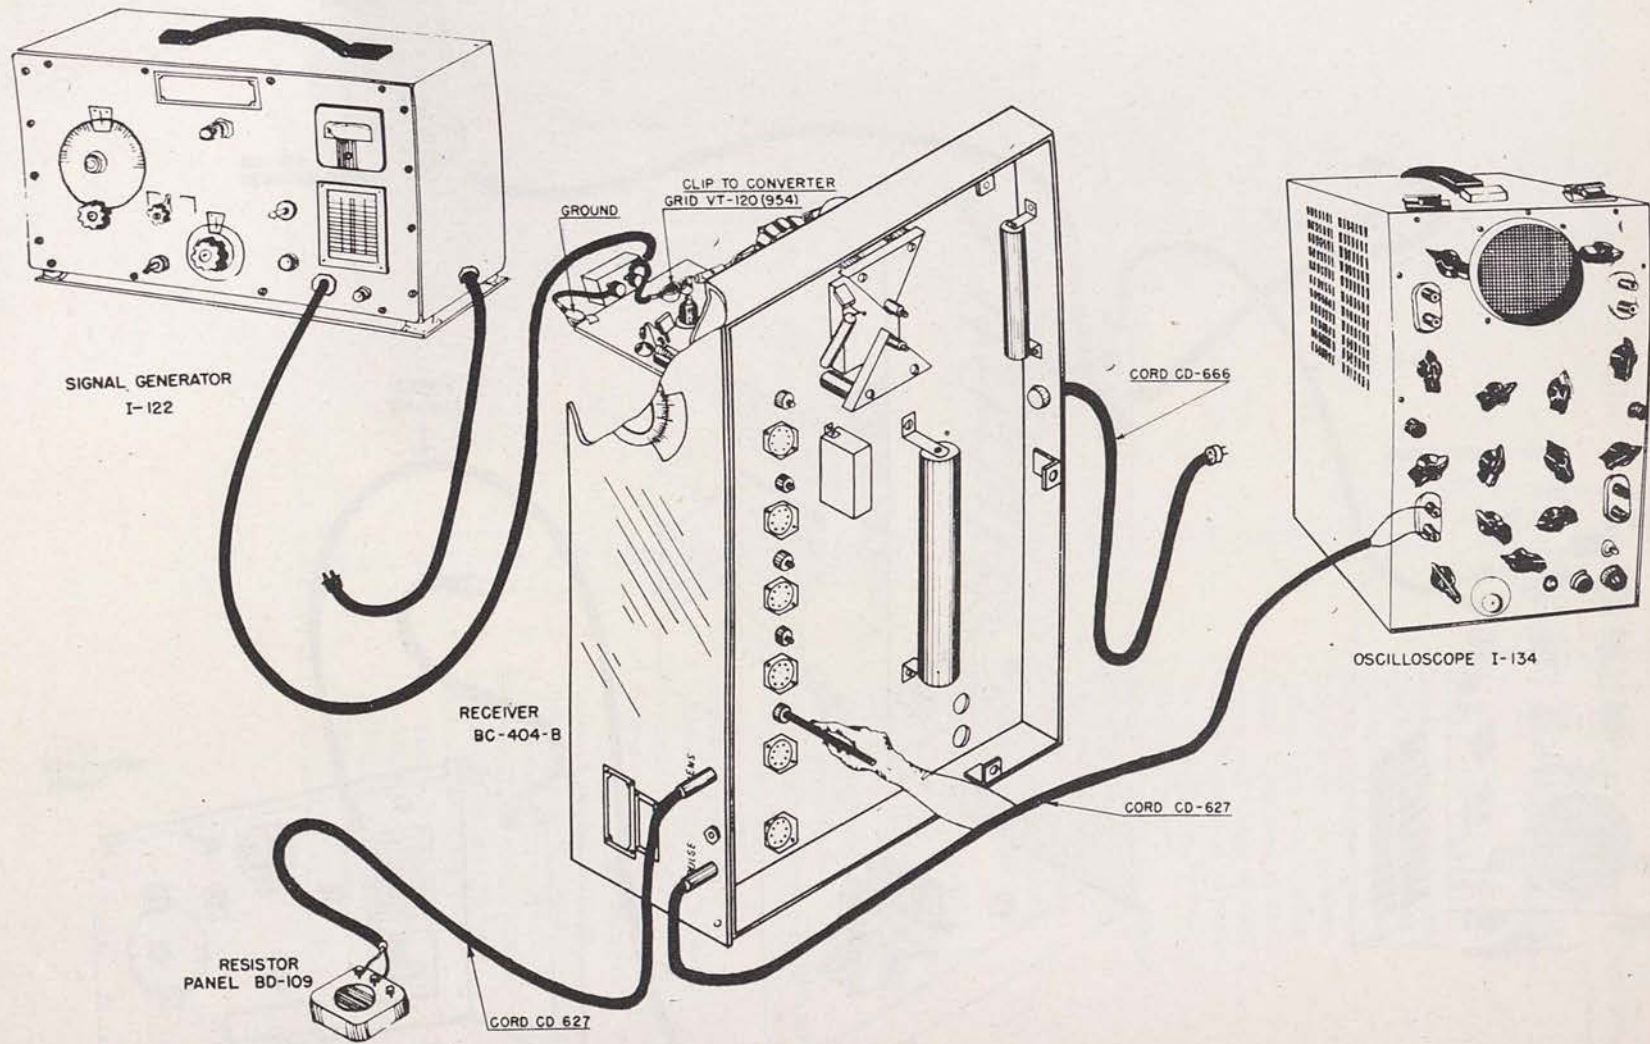

Figure 77. Receiver BC-404-C, alignment of i-f stages.
(1) Remove the cover from the receiver chassis. Set the chassis upright on one end as shown in figure 77.
(2) Remove the local oscillator tube 955 from its socket.
(3) Connect the receiver, the signal generator, oscilloscope, and resistor panel as shown in figure 77. Resistor Panel BD-109 is used as a sensitivity